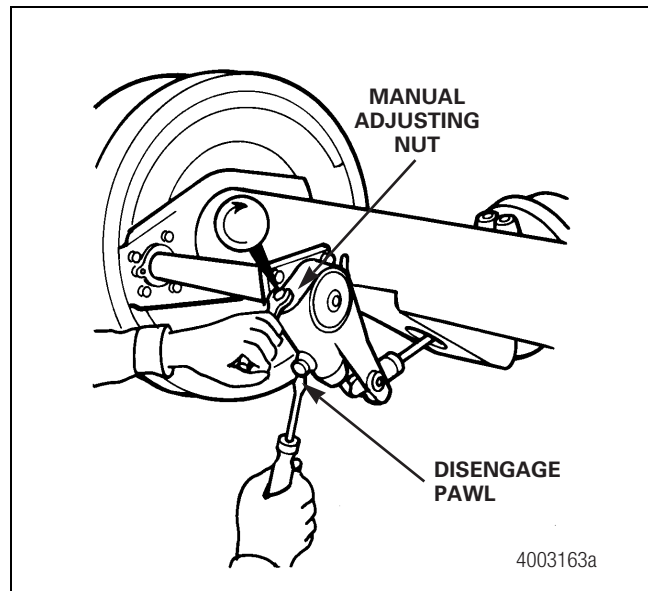

Figure 3.5
- For a pull pawl:** Pry the pawl at least 1/32-inch (0.794 mm) to disengage the teeth. Figure 3.5.